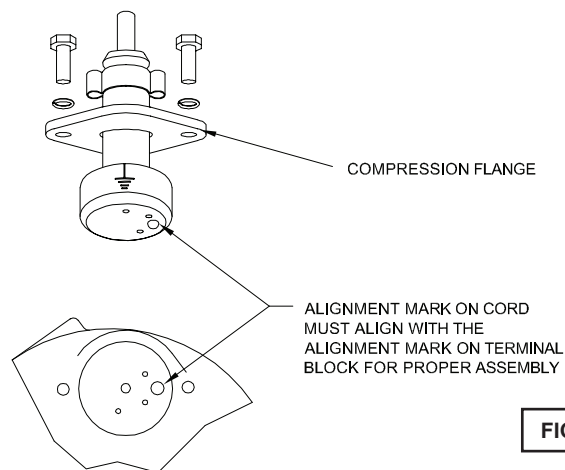

FIGURE 9
To clean out volute (26), or replace impeller (28), disconnect power, remove hex nuts (20) and lock washers (19), vertically lift motor and seal assembly from volute (26). Clean out volute if necessary. Clean and examine impeller (28) for pitting or wear, replace if required. Inspect square ring (42) and replace if cut or damaged. If impeller (28) requires replacing, remove jam nut (34) and washer (35). The impeller is keyed onto the shaft with a square key (33) and to remove, pull impeller straight off the shaft using a wheel puller, if required. Before reinstalling, check the motor shaft and impeller bore for damage. Once impeller (28) is removed, remove pull washer (16) and exclusion seal (17) if damaged or cut. (See Figure 9 and 10)